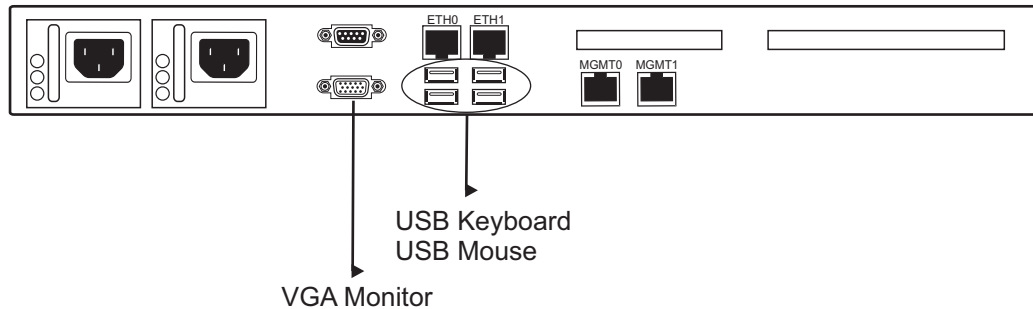

Figure 9.4 USB to DB9 Adapter
1. Connect a VGA monitor to the VGA port of the 7800-CTRL. Connect a USB keyboard to an available USB port on the 7800-CTRL. Do the same for a USB mouse See figure 9.4 on page 62.